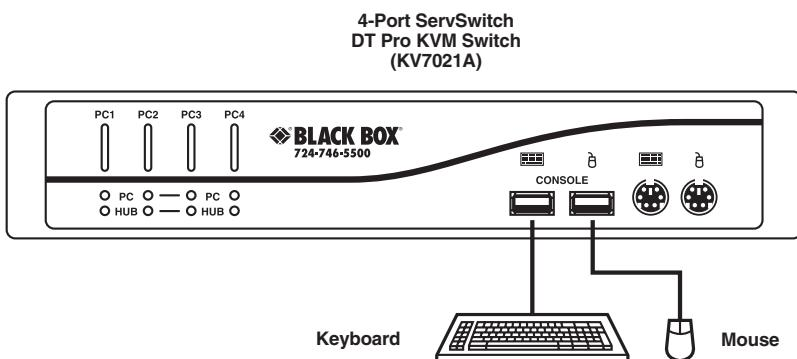

Figure 3-1. Keyboard and mouse connections.
2. Connect your USB keyboard and USB mouse or PS/2 keyboard and PS/2 mouse directly to the USB or PS/2 keyboard and mouse ports (labeled with keyboard and mouse symbols) on the front of the ServSwitch. USB connections are shown in Figure 3-1.